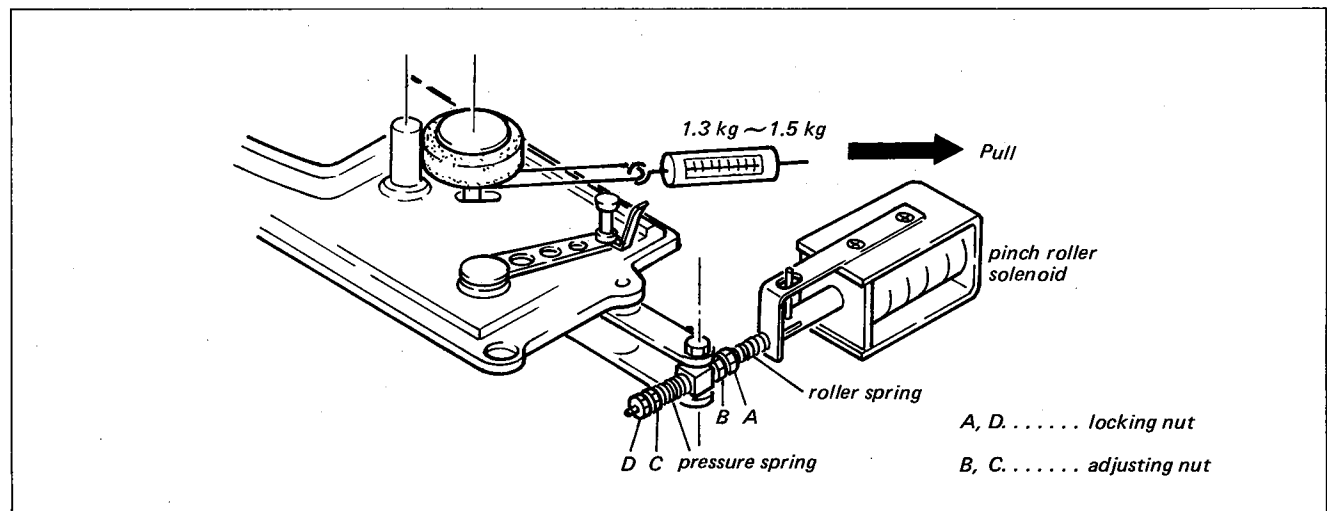

Fig. 3-4 Pinch roller pressure adjustment
(See Fig. 3-4)
- 2) Set the spring scale to the pinch roller as shown in Fig. 3-4. Push the FORWARD button "▶".
adjusting nut C (see Fig. 3-4) of the pinch roller solenoid for a spring scale reading between 1.3 and 1.5 kg